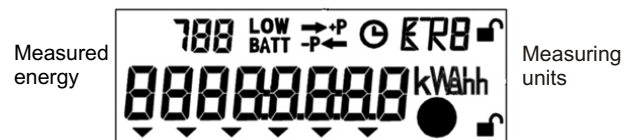
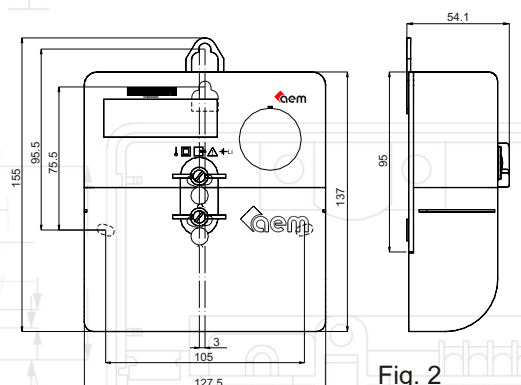

Fig. 1
Fig. 2
- Overall dimensions: 127x95(155)x54 mm, according to figure 2
- 3 points mounting dimensions: 105x75(95) mm, according to 2
- Display: LCD custom design 60x20 mm, acc. to figure 1
- The display is made on a custom design display, according to figure 1.